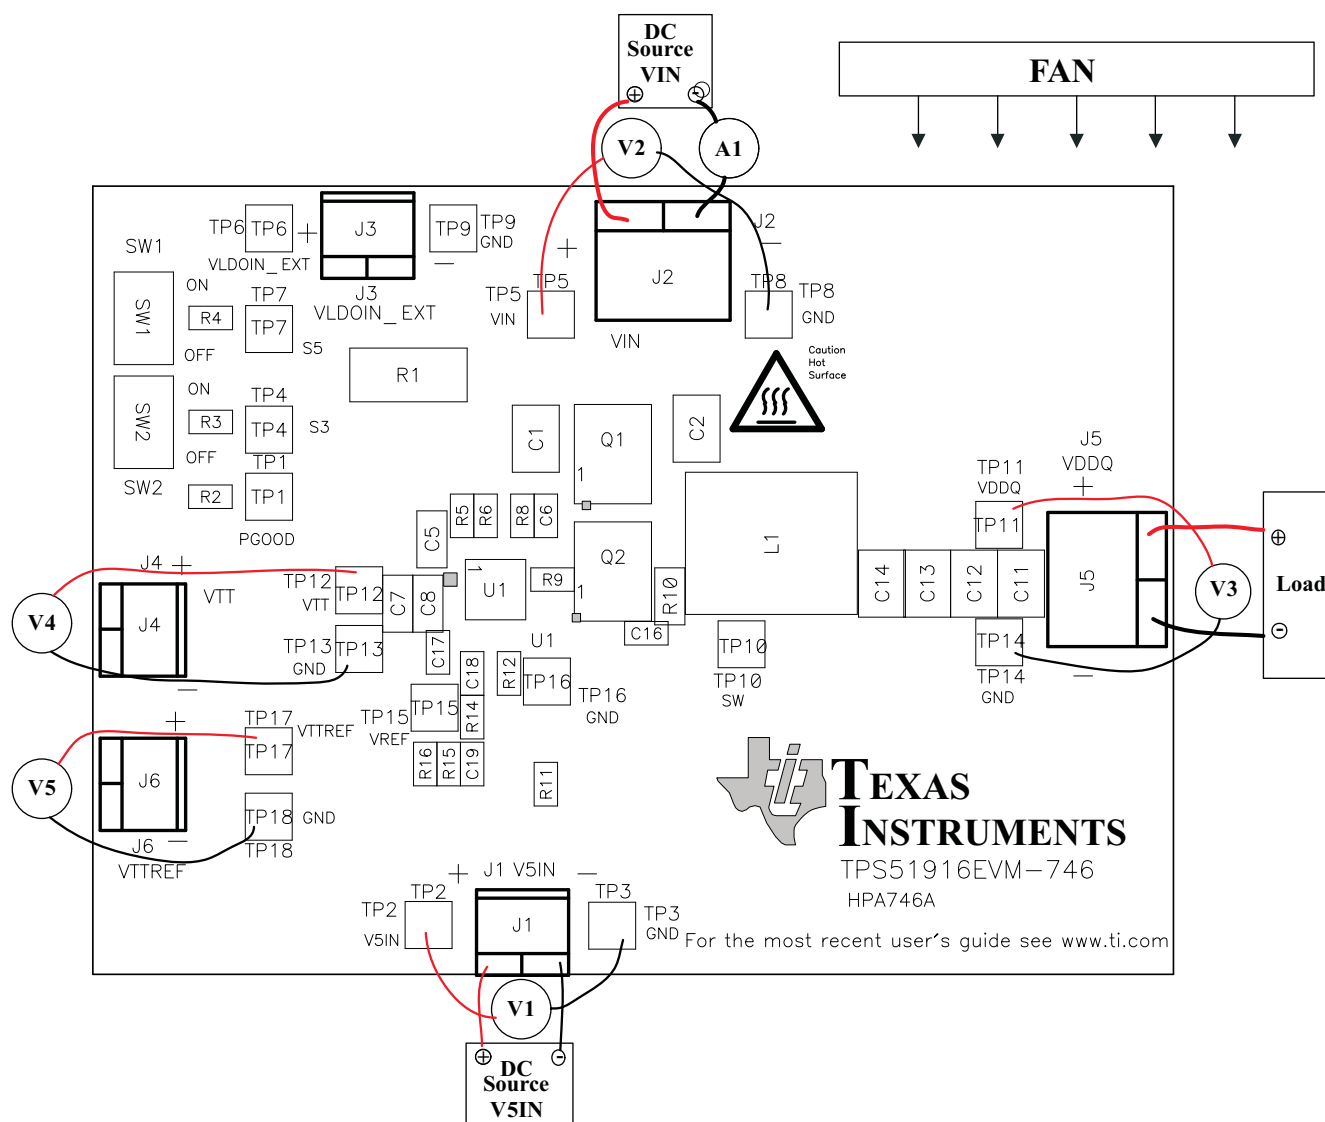

Figure 3. TPS51916EVM-746 Recommended Test Setup
Voltage Source V5IN: The input voltage source V5IN must be a 0-V to 5-V variable dc source capable of supplying 1 Adc. Connect V5IN to J1 as shown in Figure 3.
Voltage Source VIN: The input voltage source VIN must be a 0-V to 20-V variable dc source capable of supplying 10 Adc. Connect VIN to J2 as shown in Figure 3.
Figure 3 is the recommended test setup to evaluate the TPS51916EVM-746. When working at an ESD workstation, ensure that any wrist straps, bootstraps, or mats are connected referencing the user to earth ground before power is applied to the EVM.
1. Prior to connecting the dc source V5IN, it is advisable to limit the source current from V5IN to 1 A maximum. Ensure that V5IN is initially set to 0 V and connected as shown in Figure 3.
2. Prior to connecting the dc source VIN, it is advisable to limit the source current from VIN to 10 A maximum. Ensure that VIN is initially set to 0 V and connected as shown in Figure 3.
3. Connect voltmeters V1 at TP2 (V5IN) and TP3 (GND) to measure V5IN voltage, V2 at TP5 (VIN), and TP8 (GND) to measure VIN voltage as shown in Figure 3.
Place a fan as shown in Figure 3 and turn it on, ensuring that air is flowing across the EVM.
1. Set up EVM as described in Section 4 and Figure 3.